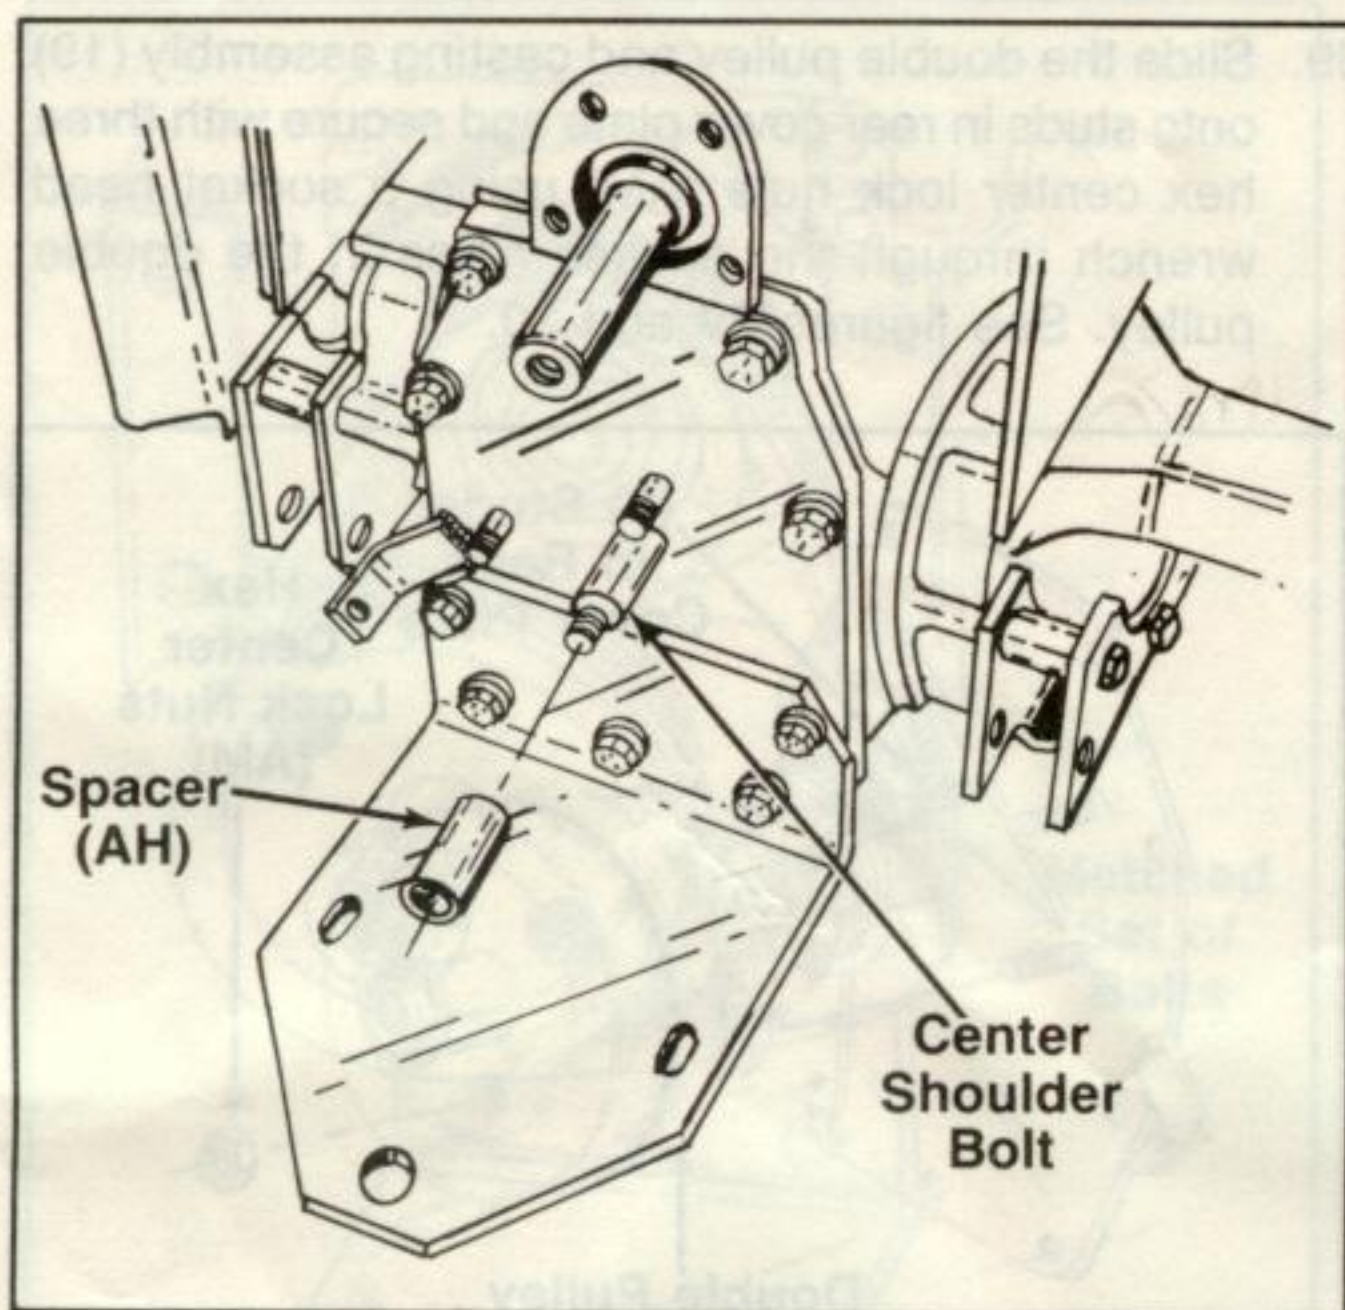

FIGURE 23.
32. Slide spacer (AH) onto center shoulder bolt, lubricate with 251 HEP grease or equivalent. See figure 23.